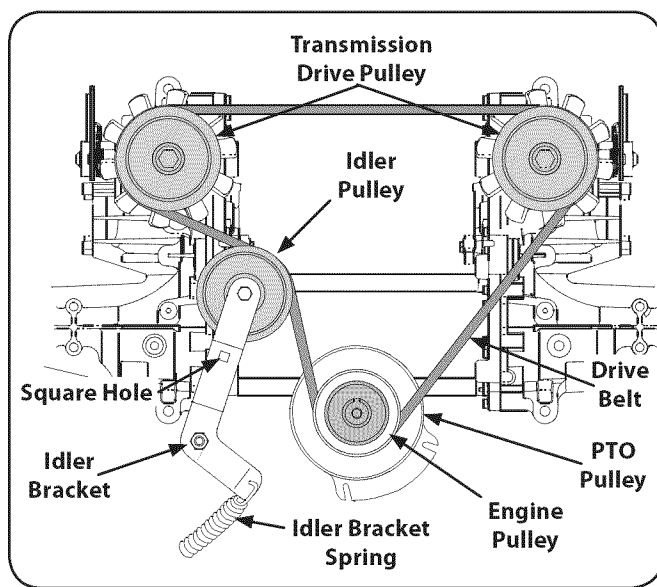

Figure 7-9
- From beneath the rear of the tractor, insert a  $\frac{3}{8}$ " drive ratchet into the square hole of the drive idler bracket. See Fig. 7-9.